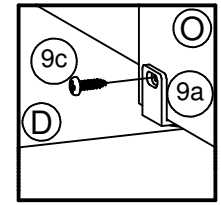

figure 4/figure 4/chiffre 4
- * Using SCREW (9c) fasten the bottom edge of the door as shown in figure 4.
- * Insert the SHELF SUPPORTS (8) at the desired height as shown.
- * Place the ADJUSTABLE SHELVES (F) onto the SHELF SUPPORTS (8) as shown.